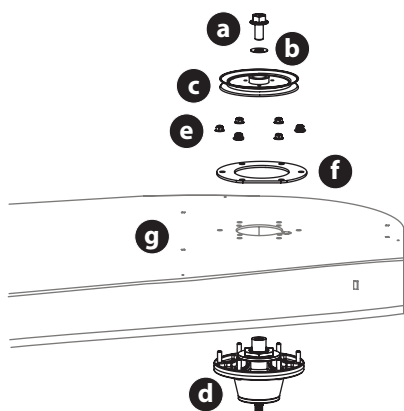
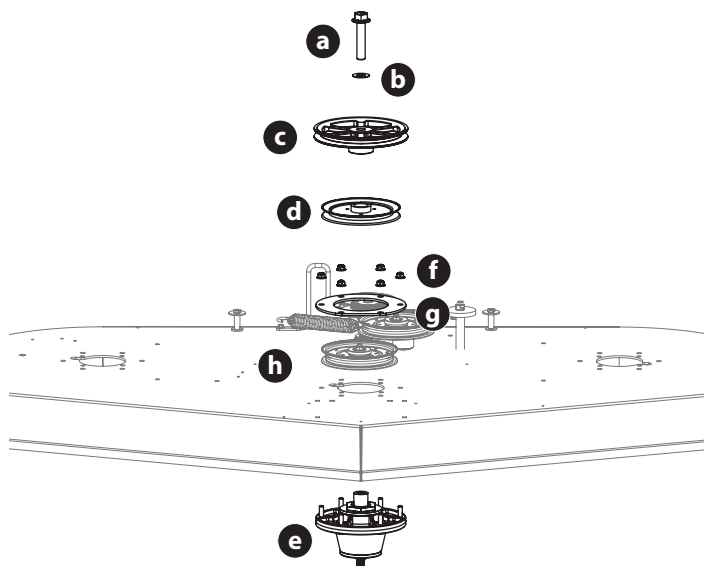

Figure 47
Figure 48
6. To remove the left and right spindle assemblies (Figure 47):
- b. Remove the six (6) flange lock nuts (e) securing the left and right spindle assemblies (d) and the support plates (f) to the deck shell (g).
7. To remove the center spindle assembly (Figure 48):
- b. Remove the six (6) flange lock nuts (f) securing the center spindle assembly (e) and the support plates (g) to the deck shell (h).
9. Reverse the process to install the spindle assembly. When installing the new spindle assembly be sure to install the hardware exactly as shown (Figure 47 or Figure 48). Torque the hex flange bolts to 250 ft-lbs (339 N-m) and the flange lock nuts to 21-32 ft-lbs (28-43 N-m).